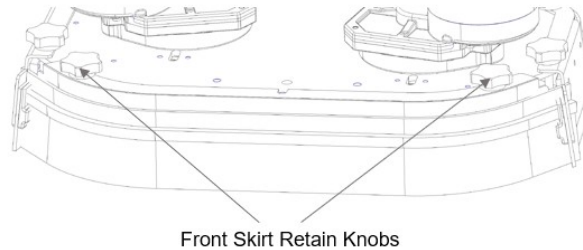

FIG.27
- 2) Loosen the front skirt retainer knobs, as shown in FIG.27.
- 2) Loosen the front skirt retainer knobs, as shown in Fig.27.